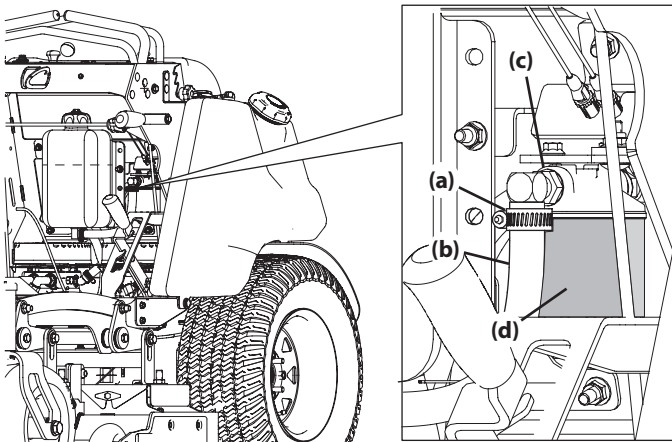

Figure 20
2. Loosen the hose clamp (a) securing the transmission oil hose (b) to the transmission oil filter assembly (c) (Figure 20).